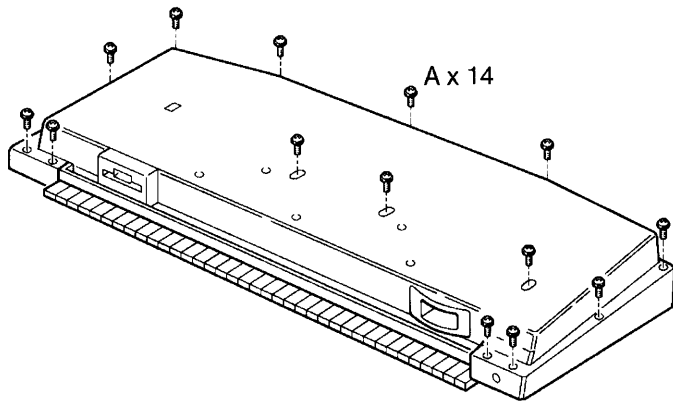

Figure-5
1. Turn the keyboard cabinet upside down, and remove the bottom screws (A 14 pcs.) as shown in Figure-5.
1. Turn the keyboard cabinet upside down, and remove the bottom screws (A 15 pcs.) as shown in Figure-5.